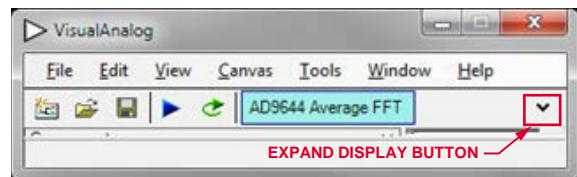

Figure 6. VisualAnalog Window Toolbar, Collapsed Display
3. To change features to settings other than the default settings, click the **Expand Display** button (see Figure 6) to view the full window (shown in Figure 7). Detailed instructions for changing the features and capture settings can be found in the AN-905 Application Note, VisualAnalog Converter Evaluation Tool Version 1.0 User Manual. After the changes are made to the capture settings, click the **Collapse Display** button (see Figure 7) to minimize the window (shown in Figure 6).